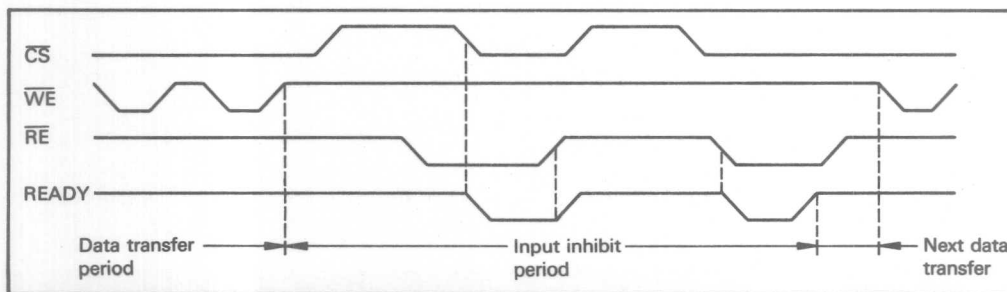

Figure 15 READY Output Timing (When It is Made Available by  $\overline{CS}$  and  $\overline{RE}$ )
- READY is made available by  $\overline{CS}$  and  $\overline{RE}$  (figure 15).